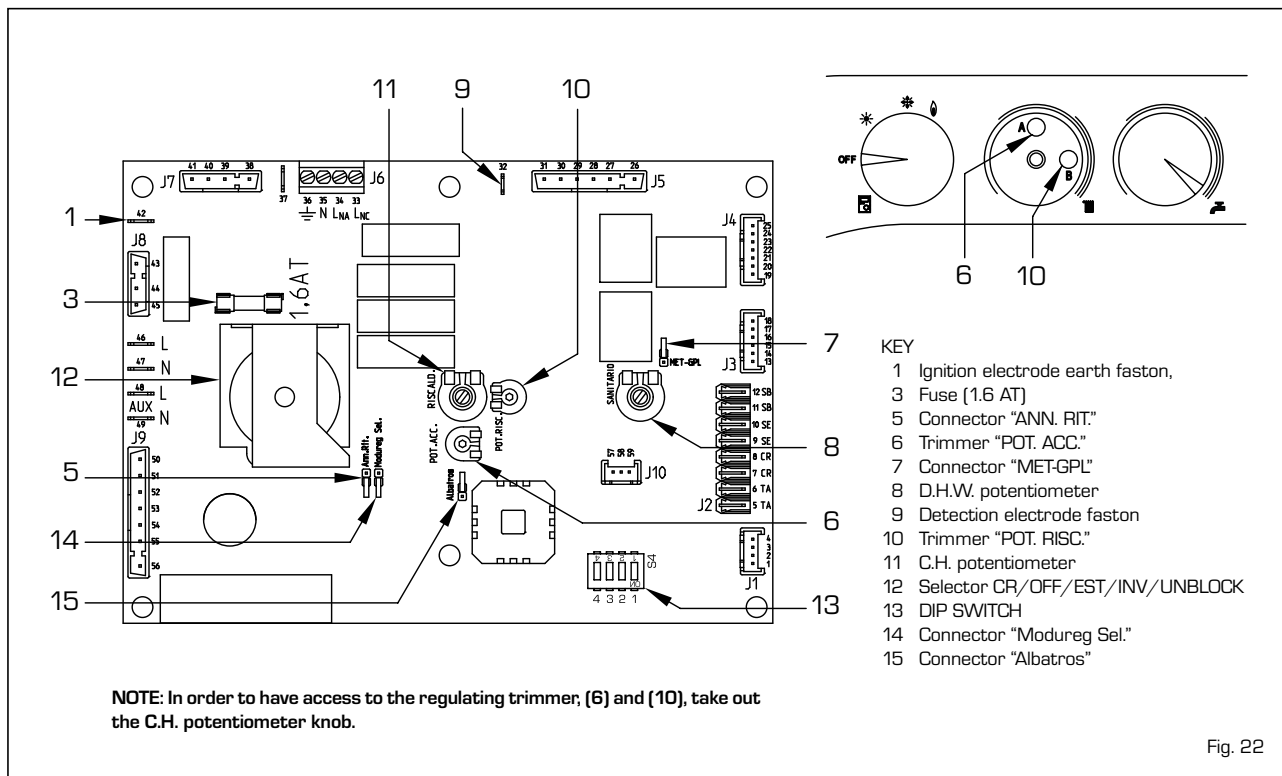

Fig. 22
- **Trimmer "POT. RISC."** (10 fig. 22)
- **Trimmer "POT. ACC."** (6 fig. 22)
- **Connector "MET-GPL"** (7 fig. 22)
- **Connector "ANN. RIT."** (5 fig. 22)
- **DIP SWITCH** (13 fig. 22)
- **Connector "Modureg Sel."** (14 fig. 22)
NOTE: In case of replacement of the SIT gas valve to HONEYWELL or vice-versa, press on the Modureg connector of electronic panel (14 fig. 22 - point 4.1.2).